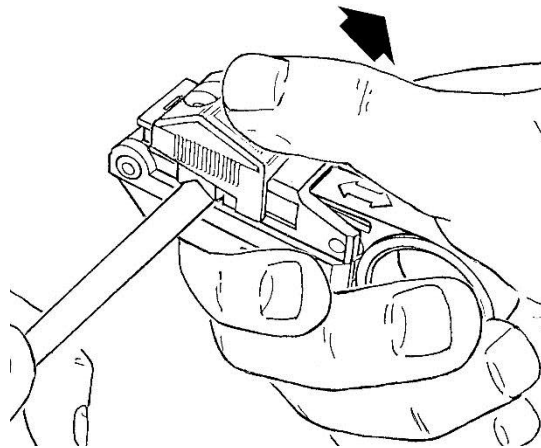

Figure 9
7. Move slide back one position. Then pull cable out carefully while squeezing tool (see Figure 9). If there is too much resistance or strip is imperfect, refer to Section 4.